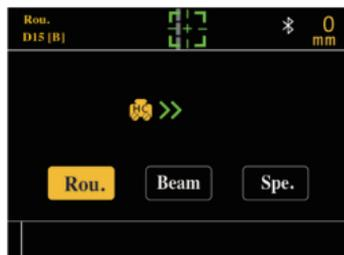

Fig. 2-15
Select wave-scan on the detection mode selection interface (Figure 2-4), and after setting parameters, press (OK) or directly press (OK) or (Fn) can enter the wave-scan interface (Figure 2-15). Wave-scan supports regular mode and